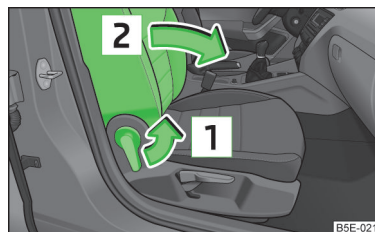

Fig. 54
- Place the lever in position **1** » Fig. 54.